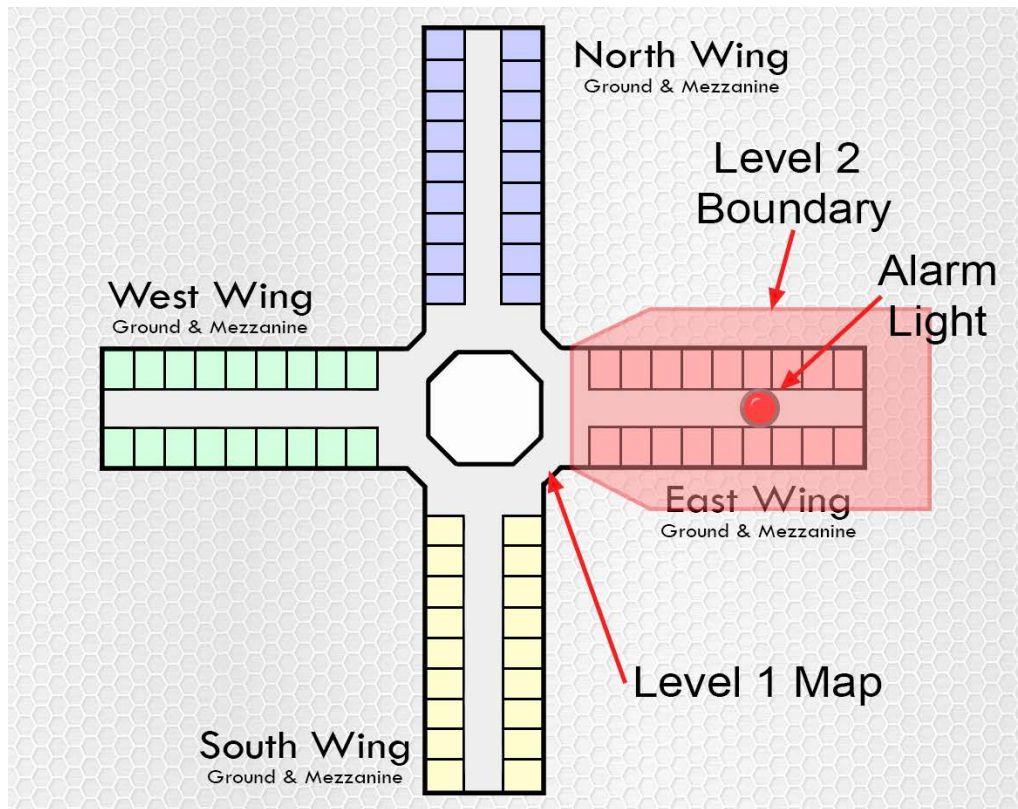

Figure 10 - Level 1 Layout
- **Highlight area in Level 1 Window:** This check box toggles the option to highlight the entire area within the boundary of a Level 2 link on a Level 1 floor plan. *Figure 10* shows a Level 1 floor plan with both the alarm light and the highlighted area options turned on.